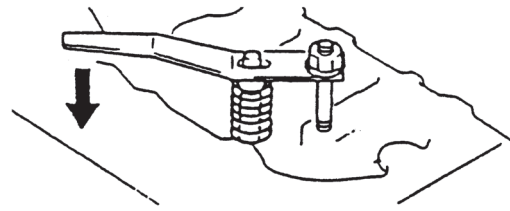

Figure 6-10
3. Using the valve spring compressor tool, compress one of the valve springs (Figure 6-10).